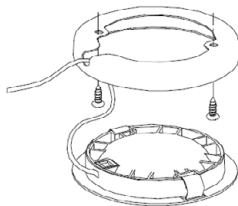

Fig. 4
- Fix the base to a suitable solid surface using the screws provided. Please ensure that the lamp cable is routed through the slot in the backplate (see Fig. 4)